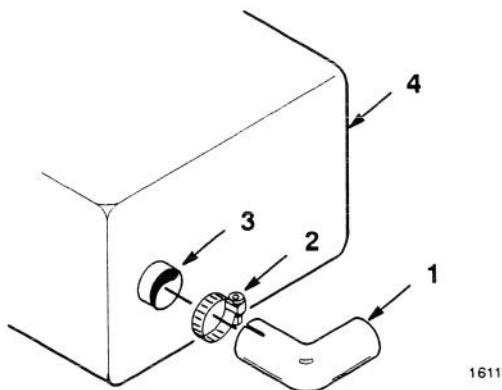

Figure 1
1. Position clamp over slotted section of the exhaust elbow (Fig. 1).
2. With exhaust elbow outlet directed toward the front of the machine, slide over the muffler exhaust outlet tube (Fig. 1).